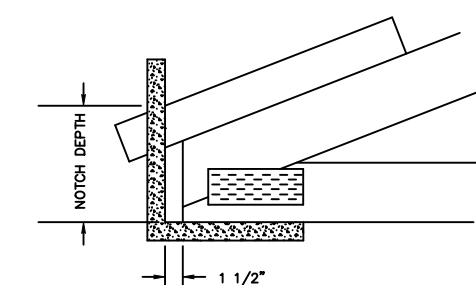

Figure 203-5
3. Put a 2x4 on the truss top chord and read the NOTCH DEPTH on a framing square placed as shown in figure 203-5. Be sure to allow 1 1/2" between the square and the heel of the truss (the thickness of the fascia).